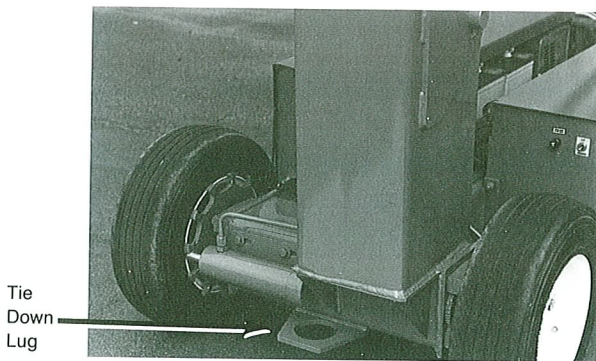

Figure 7. Tie Down Lugs
2. Use tie down lugs (located center front and center rear of chassis) to secure the work platform for transport (Figure 7).